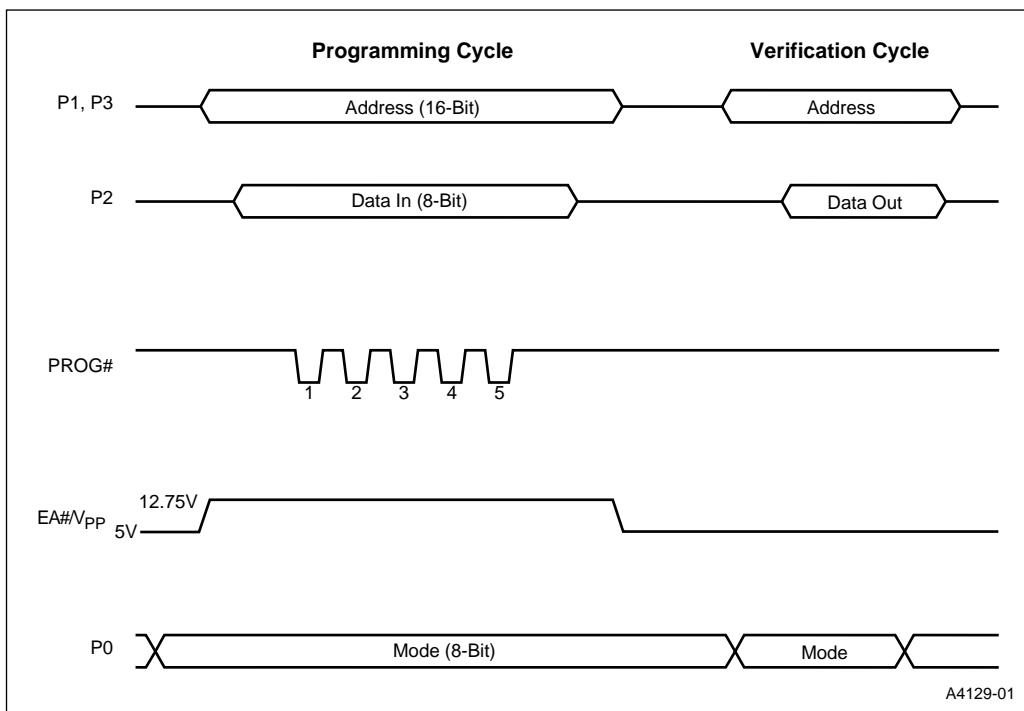

Figure 13-2. OTPROM Programming Waveforms
1. To program, raise V_{PP} to 12.75 V and pulse the PROG# pin. See Figure 13-2 for waveforms.
To perform the write operation, raise V_{pp} to 12.75 V and pulse the PROG# pin per Table 13-1. Then return V_{pp} to 5 V. Waveforms are shown in Figure 13-2.
Verification is performed in a similar manner but without increasing V_{pp} and without pulsing PROG#. Figure 13-2 shows the OTPROM programming and verifying waveforms. For waveform timing information, refer to Figure 13-5 and Table 13-5 at the end of this section.